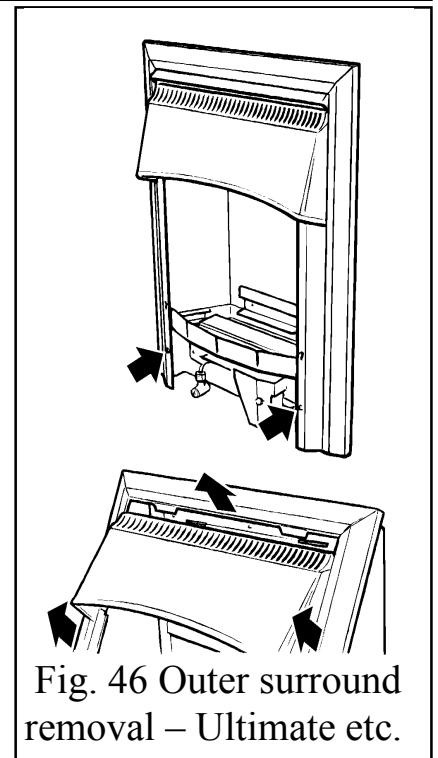

Fig. 46 Outer surround removal – Ultimate etc.
3. Remove the two screws securing the bottom of the front surround to the sides of the convection box. See figure 46.
4. Raise the front surround to allow the retaining lugs at the top to clear the slots in the convection box hood. See figure 46. Carefully remove the